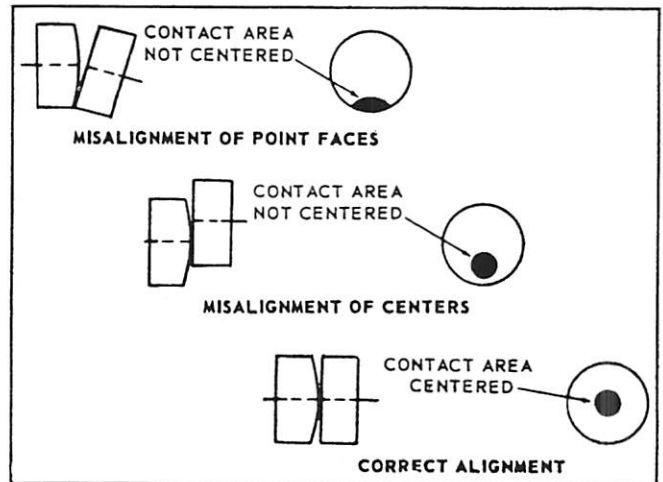

Figure 6. Point Alignment
4. Check breaker point alignment. Breaker assemblies are prealigned at the factory; however, if points are not properly aligned as shown in Figure 6, bend or twist **FIXED CONTACT POINT ONLY** with Breaker Point Alignment Tool (C-91-28883).